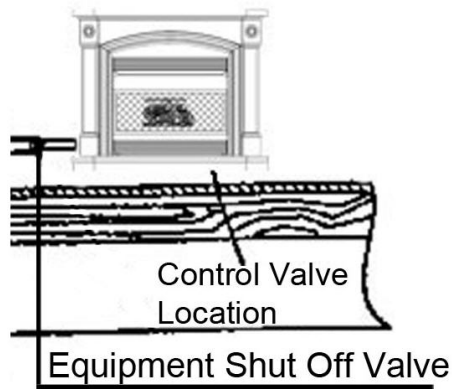

Figure 12 – Checking Gas Joints
3. Check all joints from gas meter to equipment shutoff valve (see Figure 12). Apply mixture of liquid soap and water to gas joints. Bubbles forming show a leak.